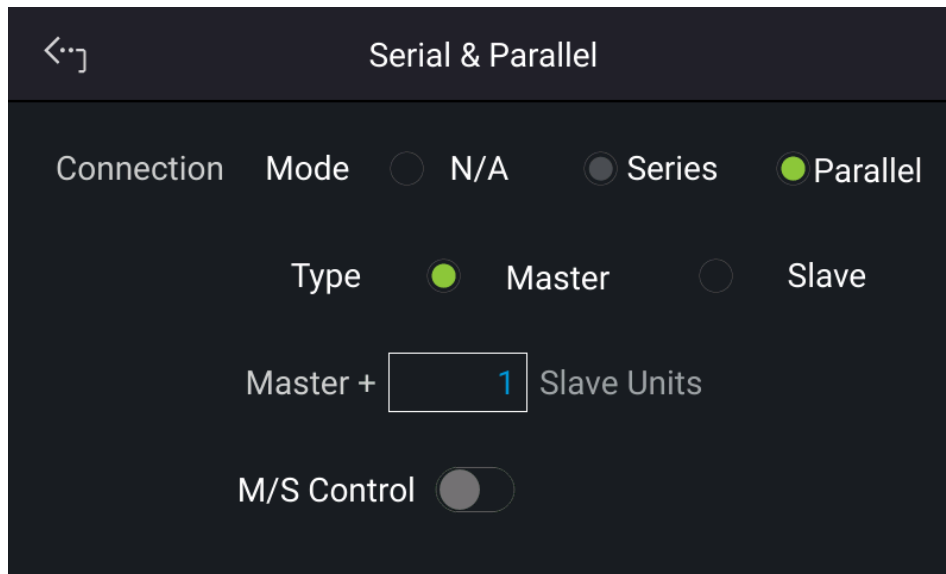

Figure 3-42
1. On the Menu page, tap “Configuration” → “Series & Parallel” and the screen will appear as Figure 3-42.